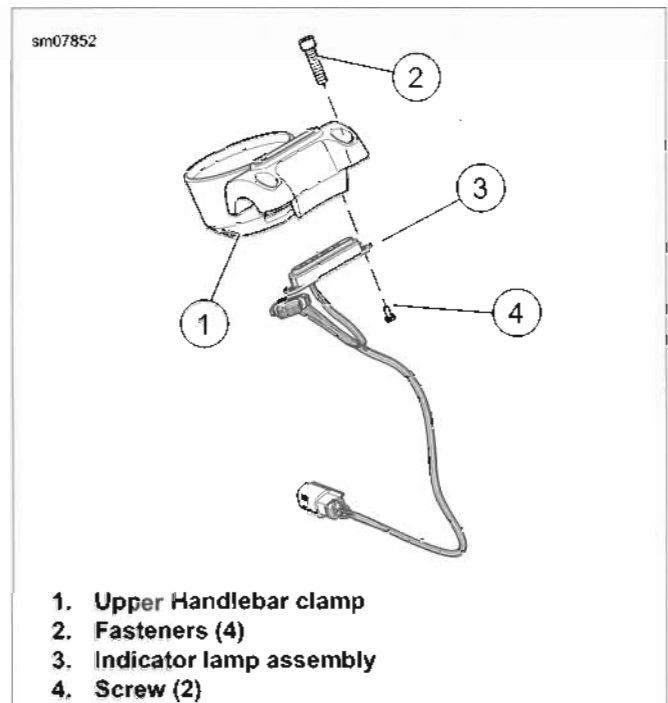

Figure 7-100. Indicator Lamp
4. See Figure 7-100. Remove fasteners (2).
5. Remove both screws (4) securing indicator lamp assembly (3) to upper handlebar clamp (1).
1. See Figure 7-100. Attach indicator lamp assembly (3) to upper handlebar clamp (1) with screws (4). Tighten to 20-30 **in-lbs** (2.3-3.4 Nm).